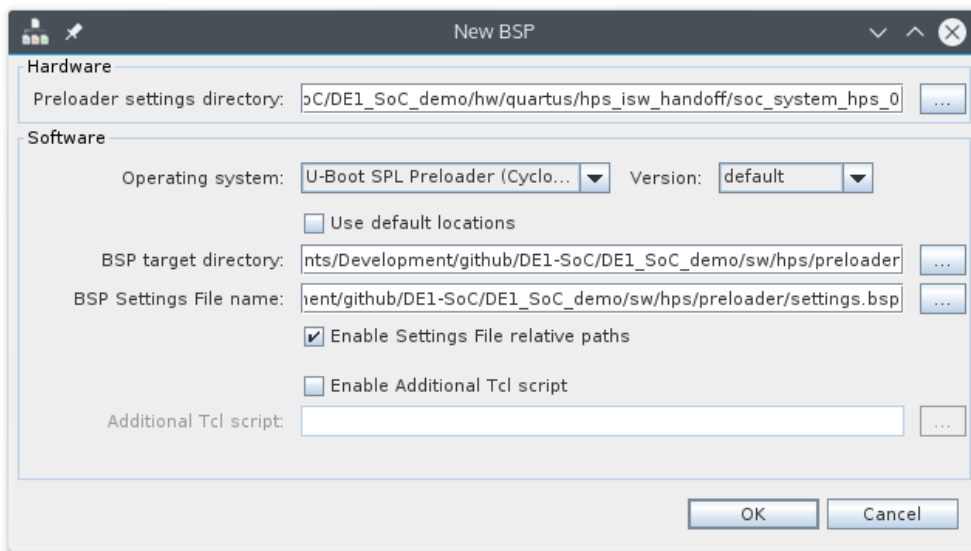

Figure 13-1. New BSP Dialog
- b. Disable the “Use default locations” checkbox and under the “BSP target directory”, select the “DE1_SoC_demo/sw/hps/preloader” directory. You should have something similar to Figure 13-1.